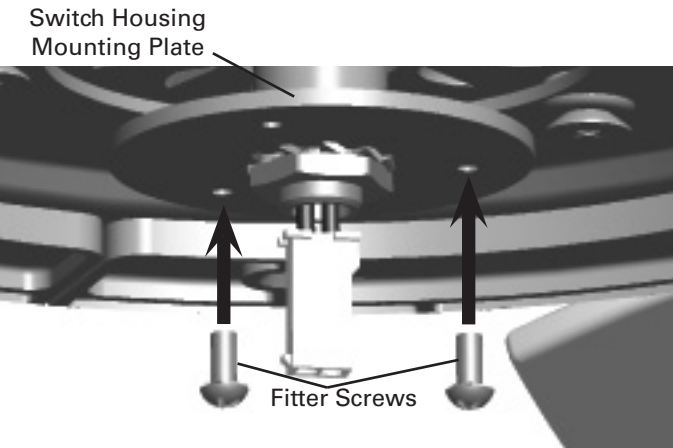

FIGURE 1.
Step 1. To attach the Glass Fitter partially install two Glass Fitter Screws into the switch housing mounting plate. Figure 1.